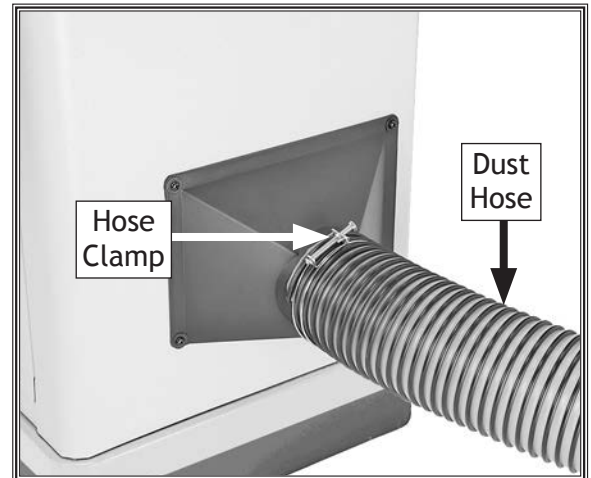

Figure 15. Example of dust hose connected to dust port.
1. Fit a 4" dust hose over the dust port, as shown in **Figure 15**, and secure it in place with a hose clamp.